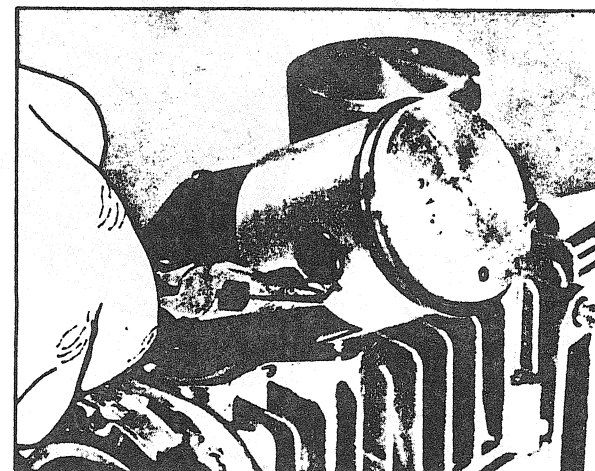

FIGURE 34
- Insert the circlips into their respective grooves on the piston. Position one end of circlips into the wrist pin orifice and with long nose pliers, push in the circlip (fig. 34).